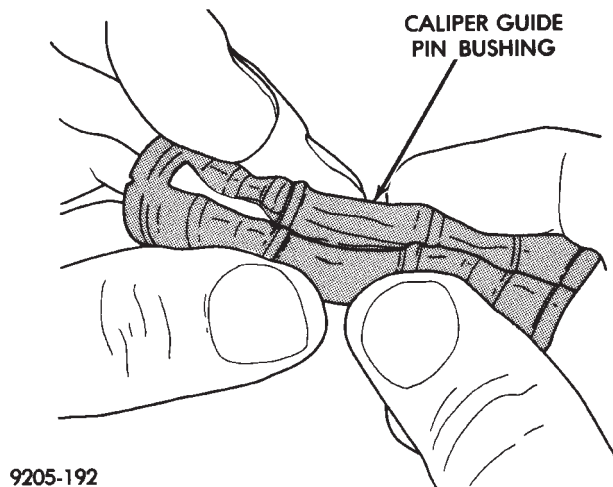

Fig. 4 Folded Caliper Guide Pin Bushing
(1) Fold the bushing in half lengthwise at the solid middle section of the bushing (Fig. 4).